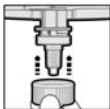
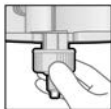

Fig. 3
Fig. 4.1
5. When the Dynamix mixing tip is in the correct position (Fig. 3), push the Dynamix fixation ring over the Dynamix mixing tip until it stops and turn it clockwise (1/4 turn) until it is securely locked in place. (Figs. 4.1, 4.2 and 5)